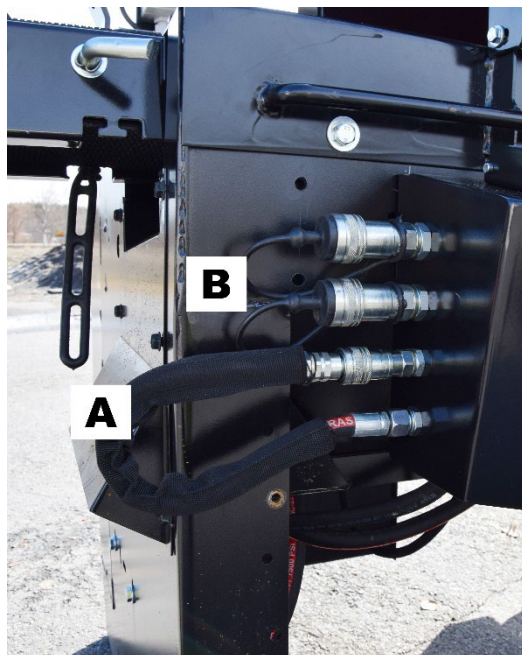

Figure 5
- ❑ Connectors on the optional hydraulics valve, Fig. 5, part B